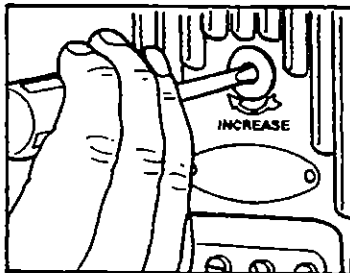

Figure 33
4. If not, the desired setting can be obtained by removing the plug from the voltage regulator cover and slightly turning the adjusting screw inside the regulator. Turn the adjusting screw clockwise to increase the voltage setting or counterclockwise to decrease it. See figure 33 for details.
Resistor R2 = Turn voltage adjustment screw (identified in figure 33) with ohmmeter connecting each way. Reading should change as slotted screw is turned. If not, replace R2.